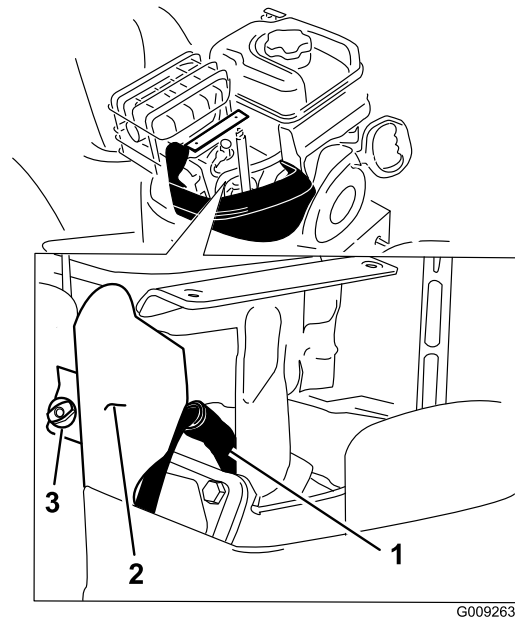

Figure 44
4. Remove the bracket thumb screw and the bracket (Figure 44).
5. Clean around the base of the spark plug (Figure 44).